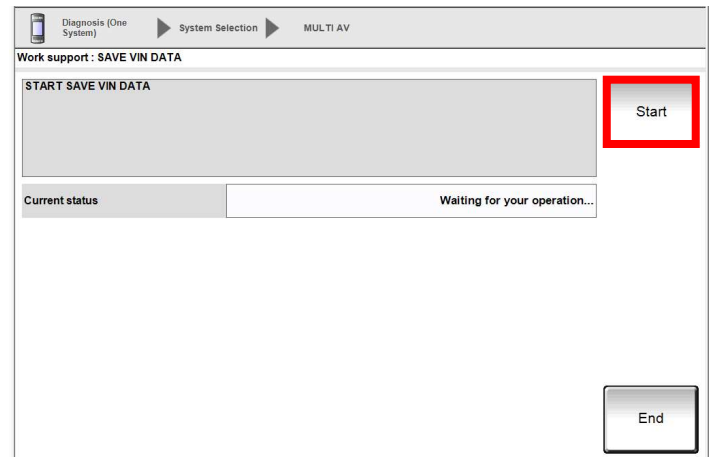

Figure 4
5. Select **Start.** (Figure 4)